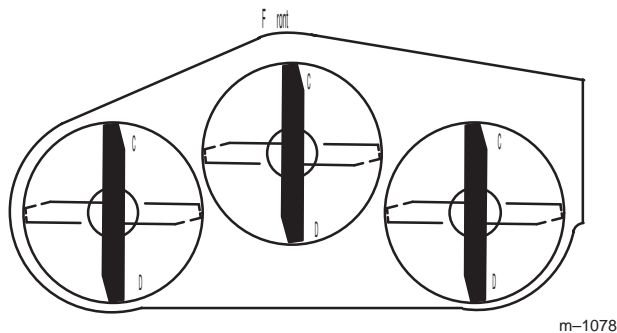
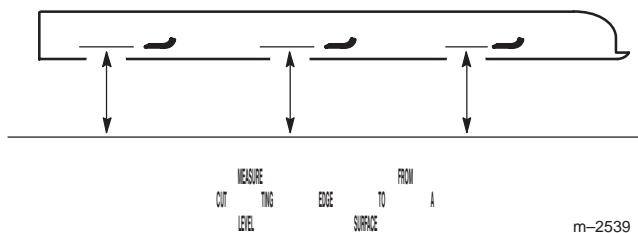

Figure 71
Figure 72
2. Position one blade front-to-rear (Fig. 71). Measure at **C** and **D** locations (Fig. 71) from a level surface to the cutting edge of the blade tips (Fig. 72).
4. Position the blades front-to-rear (Fig. 71). Measure at **C** and **D** locations (Fig. 71) from a level surface to the cutting edge of the blades (Fig. 72).